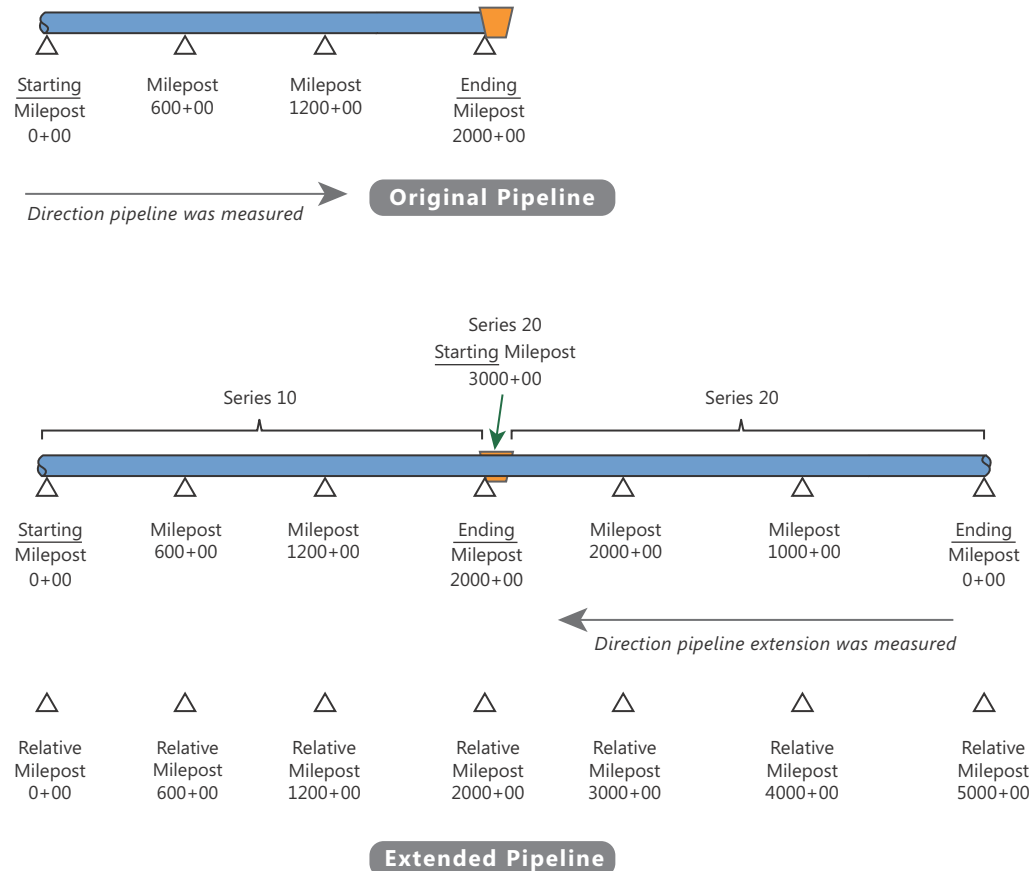
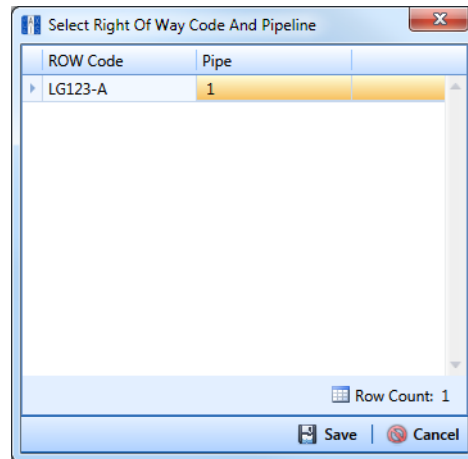
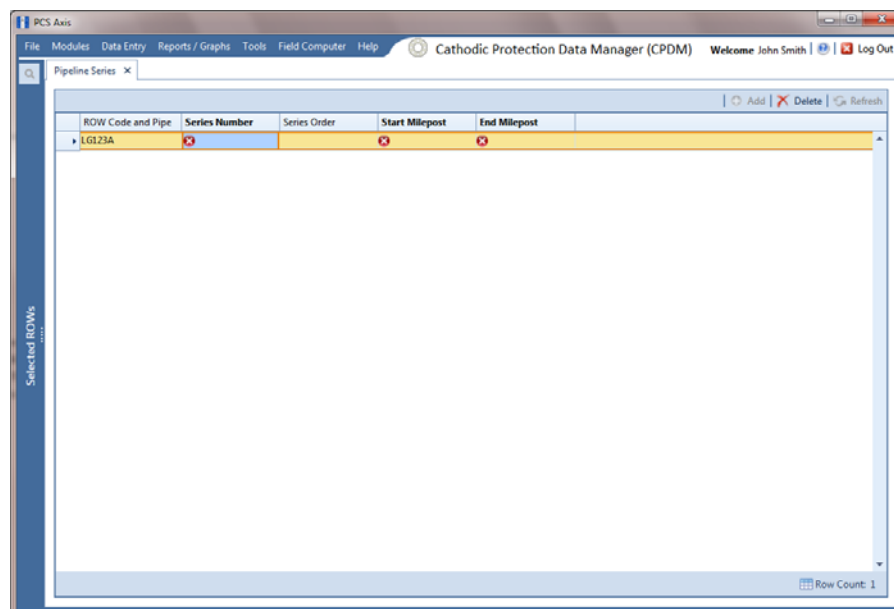

Figure 2-37. Example of an Extended Pipeline with Mileposts Set in Reverse Order
Figure 2-40. Select Right Of Way Code And Pipeline
Figure 2-41. Pipeline Series
The procedure in this section describes how to add a *Pipeline Series* definition and then apply it to effected milepost numbers in a facility data entry grid. The example in the procedure adds a pipeline extension with mileposts numbers set in reverse order as shown in the following example (Figure 2-37).
- 4 Click  **Add** and select the pipeline you want to work with in the dialog box that opens (Figure 2-40). Then click  **Save** to close the dialog box and return to the *Pipeline Series* window (Figure 2-41).
NOTE: Fields requiring information include a  red icon, such as *Series Number*, *Start Milepost*, and *End Milepost* shown in the next example (Figure 2-41).
In the example shown in Figure 2-37 (page 73), *Series 10* was added for the original pipeline segment with a start and end milepost of 0+00 and 2000+00 respectively. *Series 20* was added for the pipeline extension. Because the mileposts are in reverse order in *Series 20*, the *Pipeline Series* is set up with a start and end milepost of 3000+00 and 0+00 respectively (Figure 2-41).